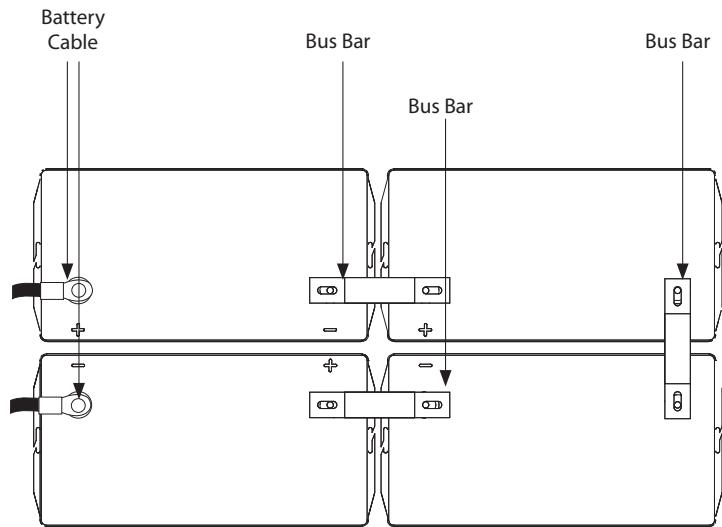

Figure 10, Battery Positive and Negative Positioning/Wiring
- 5. Wire the batteries in accordance with Figures 10 and 11, torquing the connections to the battery manufacturer's recommendation.